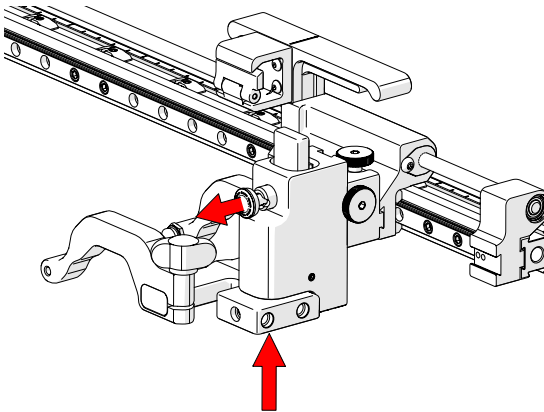
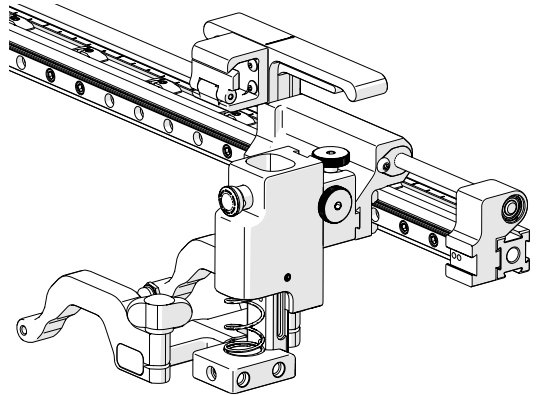

Fig. 41 - Press up and pull latch
Fig. 42 - Lowered toward scan surface
1. Gently lift the heavy duty vertical probe holder and simultaneously pull the latch (Fig. 41). This action will unlock the probe holder. Slowly lower the probe holder towards the scan surface (Fig. 42).